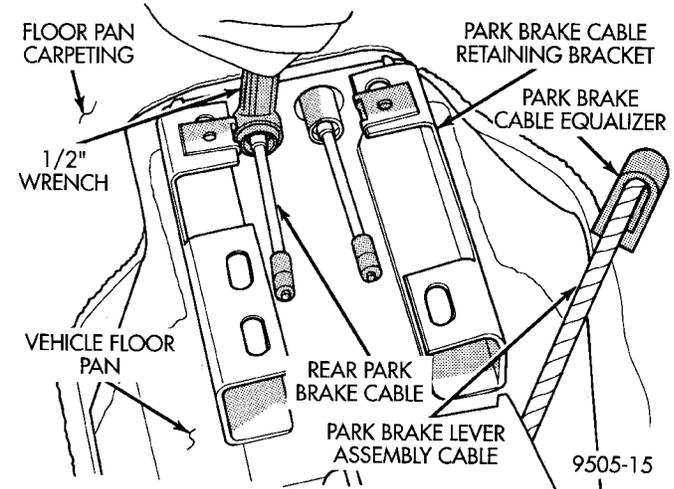

Fig. 140 Compressing Park Brake Cable Retaining Tabs
(10) Fold rear carpeting forward to expose park brake cables.
(11) Install the box end of a 1/2 in. wrench over the park brake cable retainer as indicated in (Fig. 140). This will compress tabs on park brake cable retainer, allowing cable to be removed from console bracket. From under carpet, grasp park brake cable housing and pull cable straight out of console bracket.